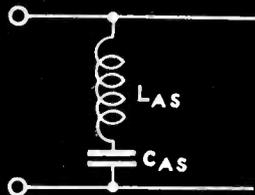

Fig. 3
- ④ For very high harmonic attenuation, replace C_A or C_C or both by series inductance and capacity, resonant at the harmonic, but presenting a capacitive reactance of X ohms at carrier frequency as shown in Fig. 3